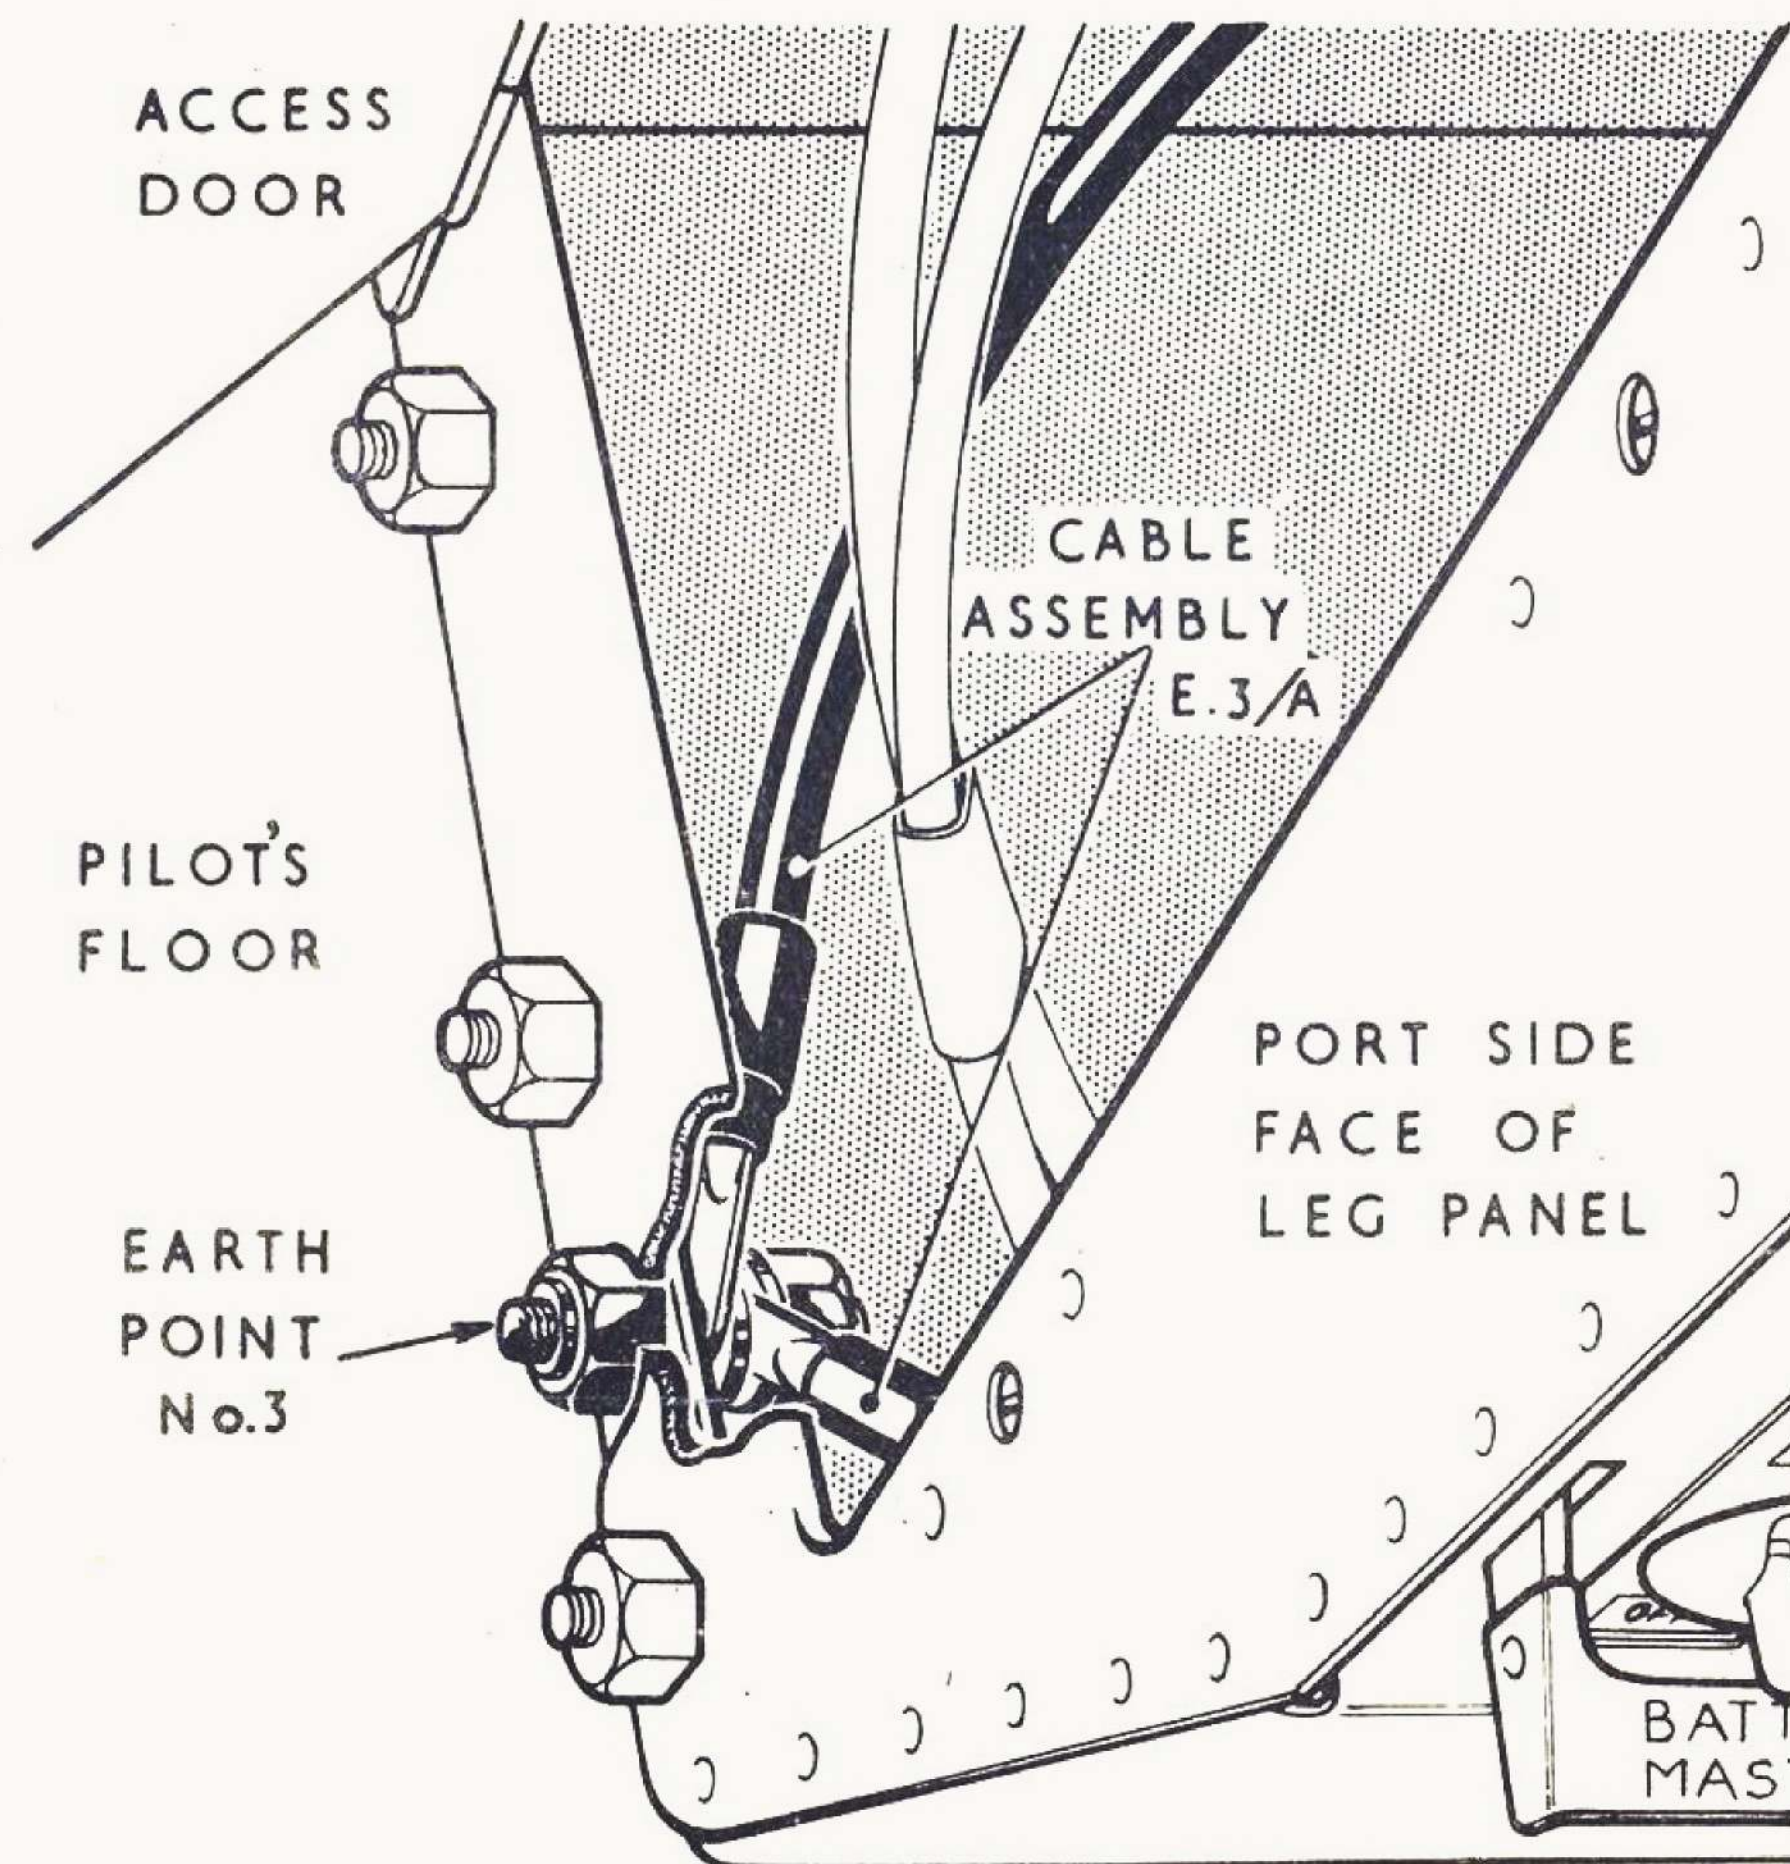

FIG. 3 EARTH POINT No.3
- (5) Disconnect cable assembly E3/A from earth point 3, obtaining access via the hinged door in the port side of the leg panel (fig. 3).
- (6) Disconnect all the plugs and sockets on the cable assemblies at the leg panel. Seal off the plugs and sockets with approved caps and covers and stow the cable assemblies away from the panel.
- (7) Release the leg panel from its mountings by removing the nine bolts from around the bottom forward, and side faces of the panel. Remove the leg panel from the cabin, complete with cable assemblies F31 and E3/A.